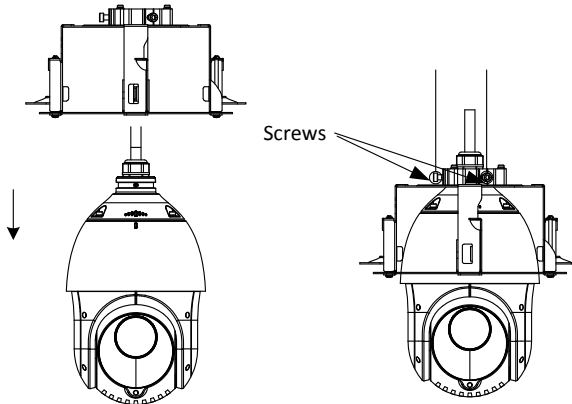

Figure 2-23 Install the Bracket
- 1) Place the in-ceiling bracket on the speed dome according to the direction of the arrow shown in Figure 2-23.